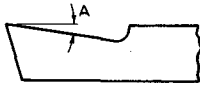

Fig. 23
85. Fig. 23 shows a lathe tool. The angle marked A is called the